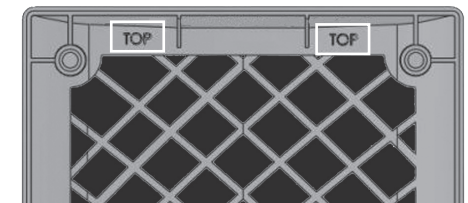

Figure 8
14. Orient the Loudspeaker Grille so the word "TOP" (located on the inside of the Grille Frame) is pointing upward. Refer to figure 8. Next place the Loudspeaker Grille onto the Front of the Loudspeaker Cabinet, making sure to align the Grille Top with the Top of the Cabinet.